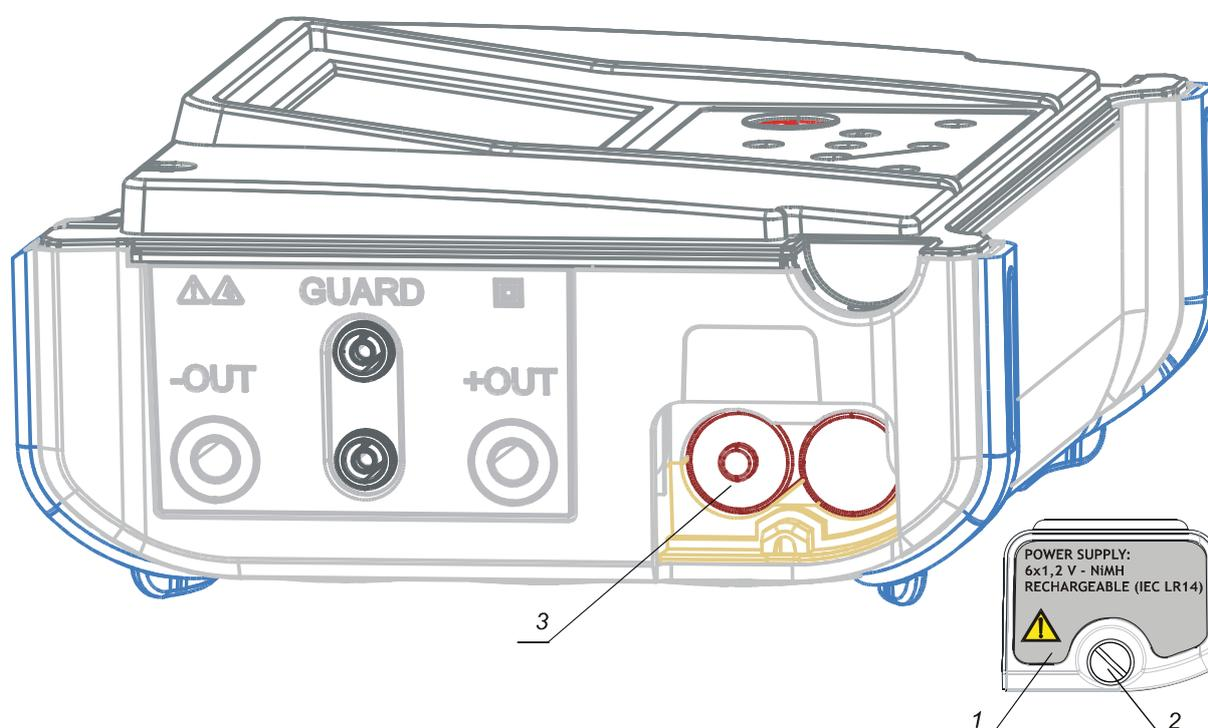

Fig. 32. Correct polarity of inserted batteries
Battery cells are stored in the bottom section of the instrument casing under the battery cover (see **Fig. 32**). When inserting batteries for the first time please note the following:
- ◆ **Insert the batteries correctly (see *Fig. 32*), otherwise the test instrument will not operate!**
Battery cells are stored in the bottom section of the instrument casing under the battery cover (see **Fig. 32**). In case the batteries become defective please note the following:
- ◆ Insert the batteries correctly (see Fig. 32), otherwise the test instrument will not operate and battery may be discharged!
Nominal power supply voltage is 7.2 V DC. Use six NiMH cells with C size (dimensions: diameter = 26 mm, height = 46 mm). See the next Fig. 32 for correct polarity of the batteries.